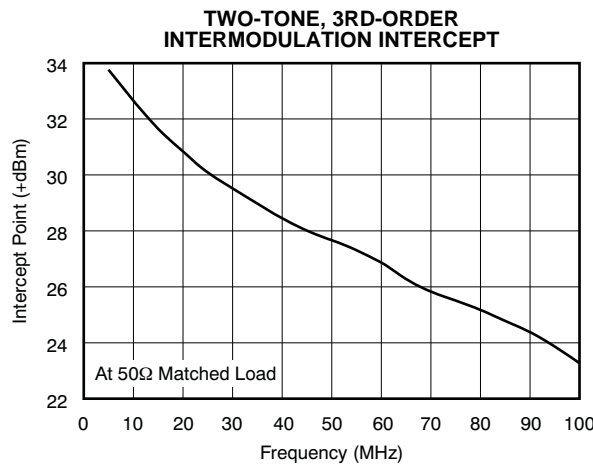
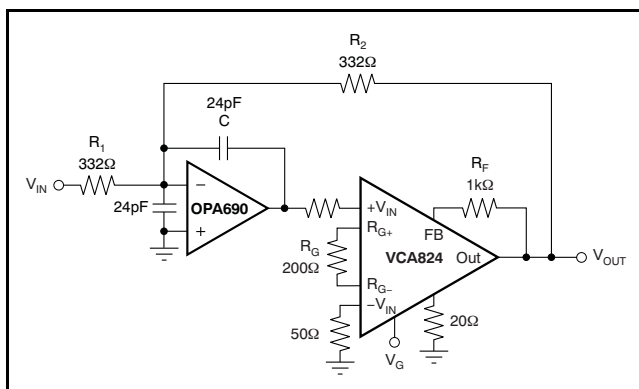

Figure 65.
Figure 84. Voltage-Control Low-Pass Filter
In the circuit of Figure 84, the VCA824 serves as the variable-gain element of a voltage-controlled low-pass filter. This section discusses how this implementation expands the circuit voltage swing capability over that normally achieved with the equivalent multiplier implementation. The circuit control voltage, V_G , is calculated as according to the simplified relationship described in Equation 4:
Because the VCA824 is most linear in the midrange, the median of the adjustable pole should be set at $V_G = 0V$ (see Figure 24, Figure 44, Figure 65, and Equation 6). Selecting $R_1 = R_2 = 332\Omega$, and targeting a median frequency of 10MHz, the capacitance (C) is 24pF. Because the OPA690 was selected for the circuit of Figure 84, and in order to limit peaking in the OPA690 frequency response, a capacitor equal to C was added on the inverting mode to ground. This architecture has the effect of setting the high-frequency noise gain of the OPA690 to $+2V/V$, ensuring stability and providing flat frequency response.